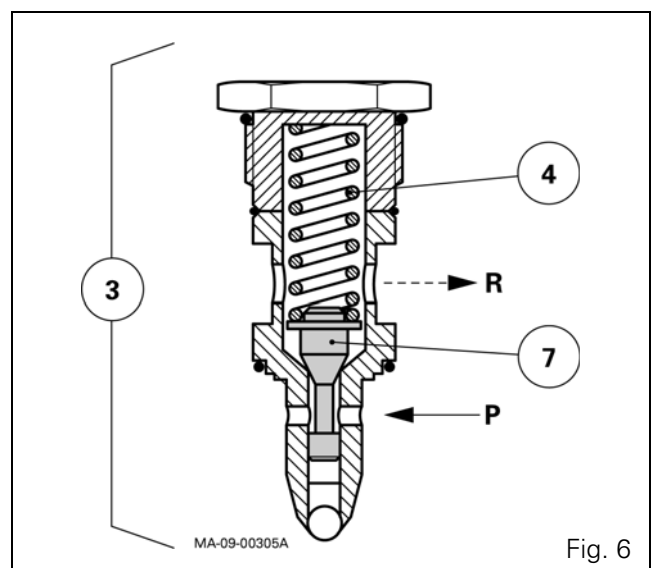

Fig. 6
On the high pressure, low flow rate valve (3) (Fig. 6)